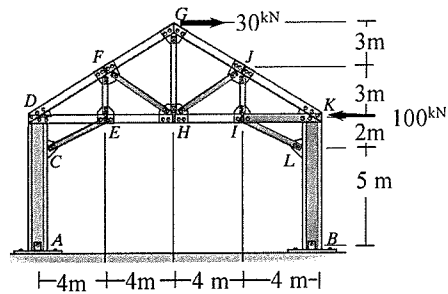

Figure 6
6. Analyze the mill bent shown in **Figure 6** by Portal Method to determine the reactions at support A and F. Also, determine the force in members **DF** and **IL**. [05]